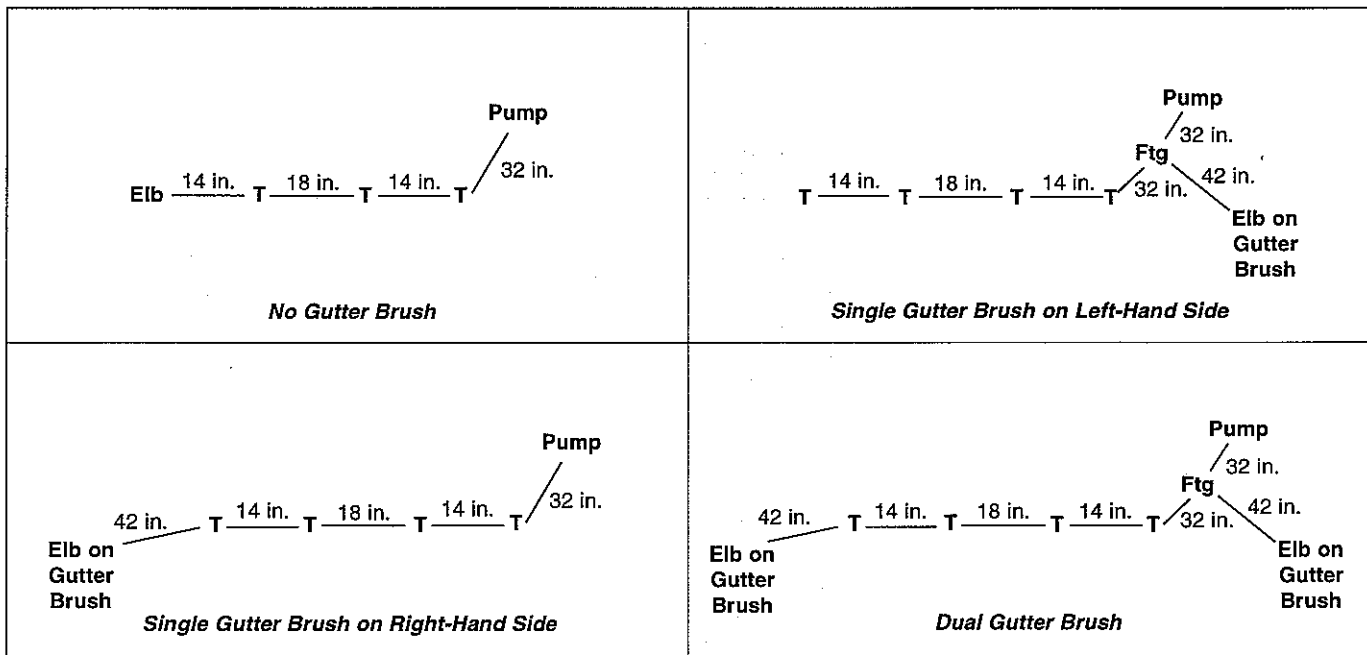

figure 29
**NOTE** – Refer to figure 29 for a hose schematic. The view is from the perspective of facing the front of the unit.